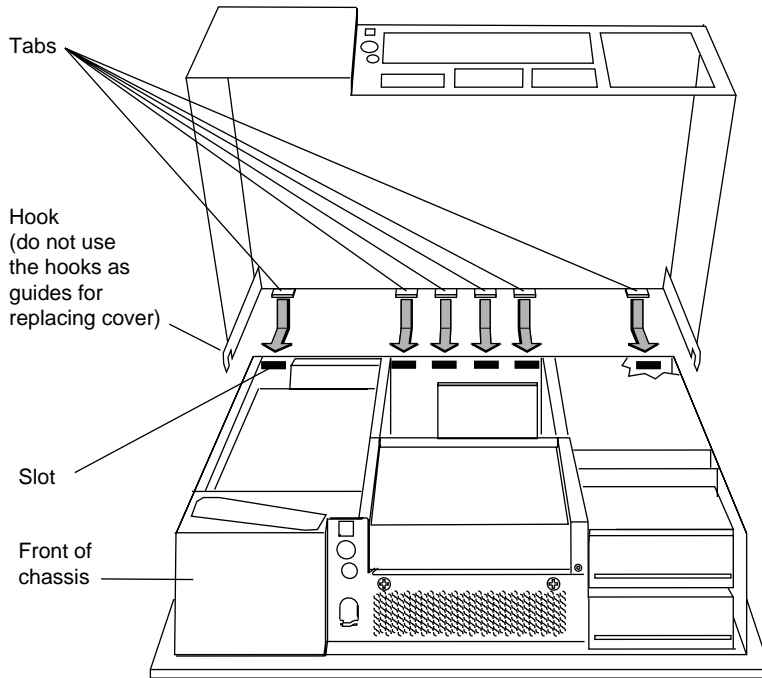

Figure 3-28 Replacing the Top Cover
1. Locate the tabs on the inside and back of the top cover and the slots on the back of the workstation. See Figure 3-28.